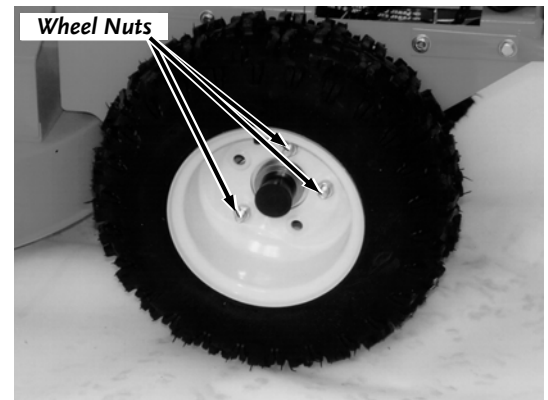

Figure 30
3. Remove the three (3) Nuts and slide the Wheel off (**Figure 30**).